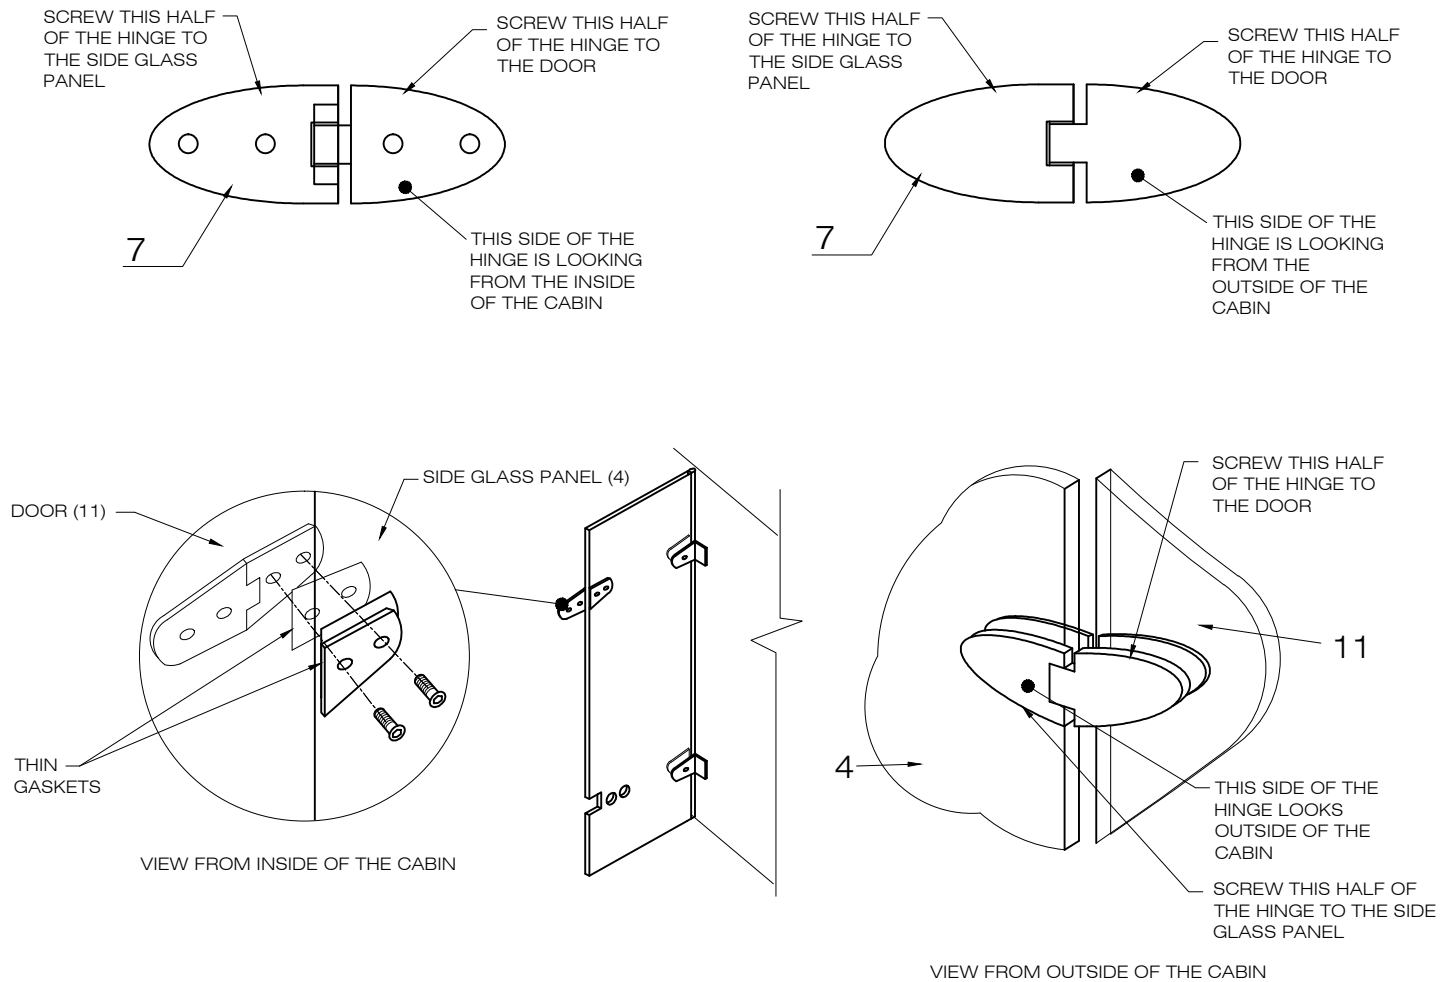
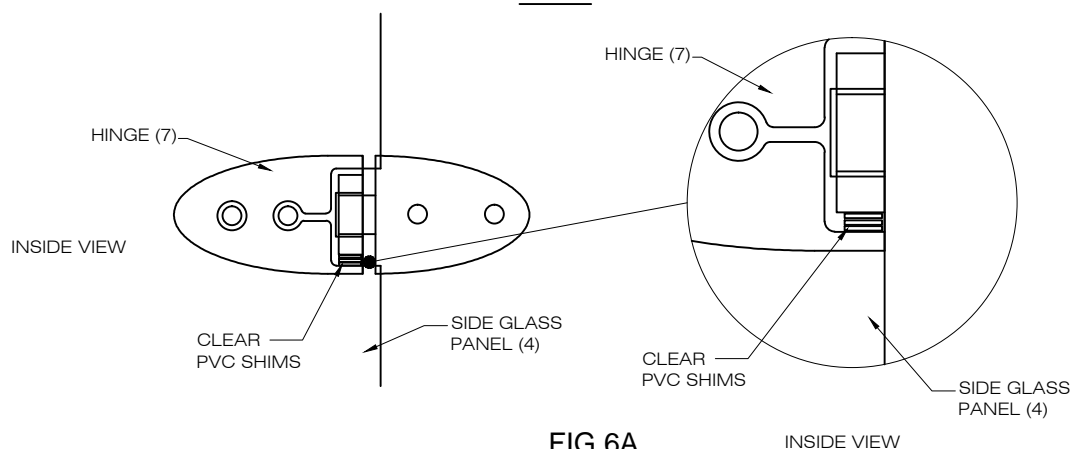

FIG.6
FIG.6A
2. Position hinges on the side glass panel. [SEE FIG.6] Place a shim between the glass and the hinge on the bottom. The metal should not rest on the glass. [SEE FIG.6A]